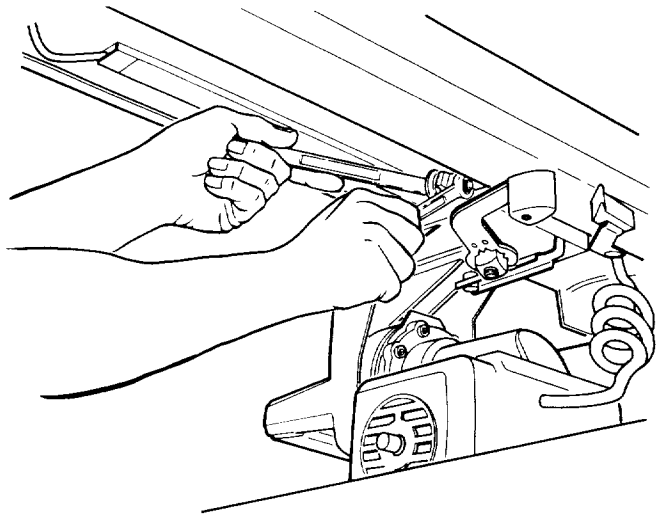

Fig. 148 - Location of Hex Nut
2. To adjust the bearing, use a 9/16 inch wrench to hold the bolt head while using a 1/2 inch wrench to loosen the hex nut. (Figure 148)